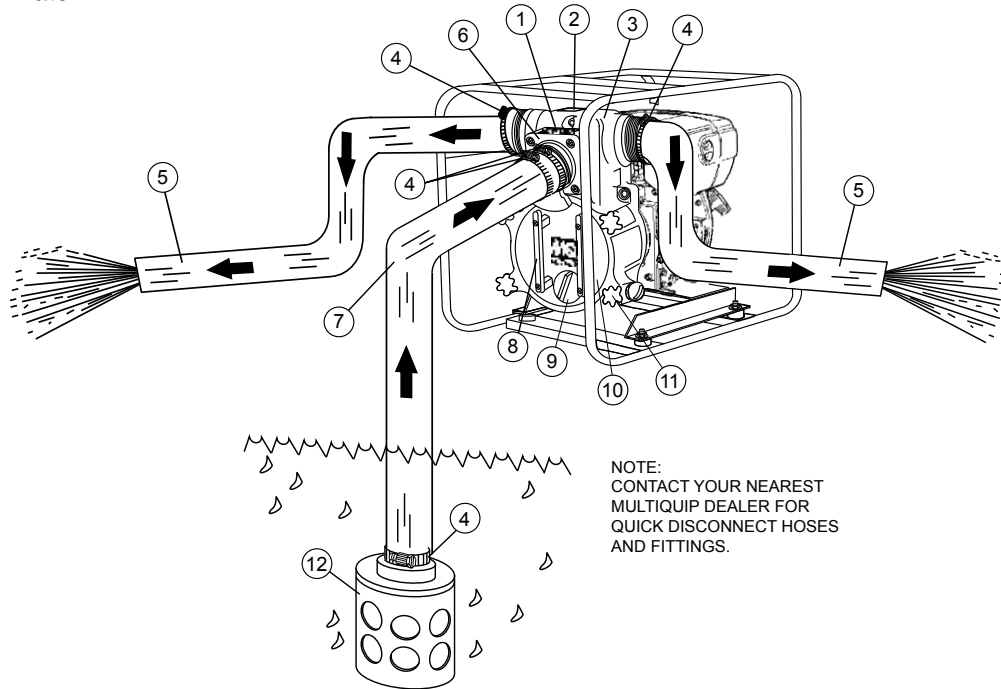

Figure 3. QP3TZ Pump Application
Figure 3 shows a typical application using the QP3TZ centrifugal pump. Please note that this pump is intended for the removal of clean water.
2. To prime pump, remove fill cap (See Figure 3) and fill pump casing with water. If the pump casing is not filled with water before starting, it will not begin pumping.
3. Attach suction and discharge hoses to the pump. Check that all hoses are **securely** attached to the pump. Make certain suction hose (See Figure 3) does not have any air leakage. Tighten hose clamps and couplings as required.
6. Check that the **discharge** hose (See Figure 3) is not restricted. Place hose so that it lays as straight as it is possible on the ground. Remove any twists or sharp bends from hose which may block the flow of water.
8. Make sure the **suction strainer** (See Figure 3) is clean and securely attached to the water end of the suction hose. The strainer is designed to protect the pump by preventing large objects from being pulled in to the pump.